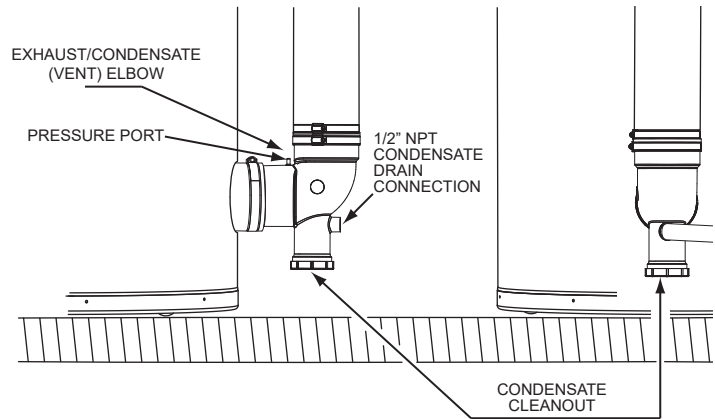

Figure 67. Condensate Drain Installation
2. Install a 1/2 inch PVC condensate drain line between the condensate drain connection on the exhaust/condensate elbow and a suitable building drain. The exhaust elbow has a "built in" condensate trap. Do not install an additional trap in the condensate drain piping. See *Figure 67*.
3. Terminate the condensate drain piping near the drain. See *Figure 67* (page 50).
4. Ensure that the condensate drain line is not elevated above the condensate drain connection on the exhaust/condensate elbow. See *Figure 67*.